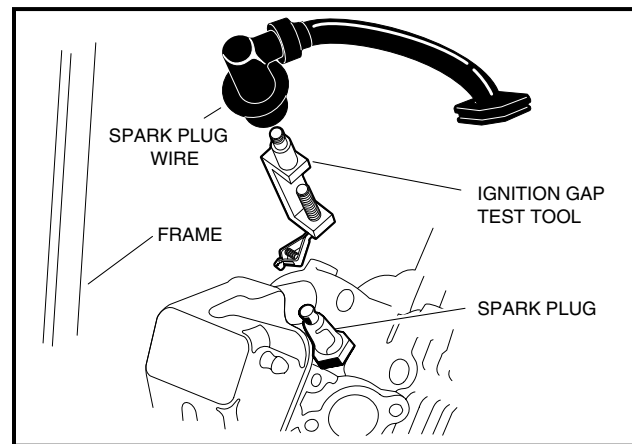

FIGURE 12-28
2. Remove the plug wire from the spark plug. Using an ignition spark gap test tool (Thexton 404® or equivalent), check for correct spark (**Figure 12-28, Page 101**).
- Remove the spark plug wire from the spark plug. Using an ignition spark-gap test tool (Thexton 404® or equivalent), check for correct spark to plug. Adjust the tester probes to approximately to 18,000 volts (18 Kv) setting. Connect the tester to the spark plug wire, and connect the alligator clip to the top of the spark plug (**Figure 12-28, Page 101**).